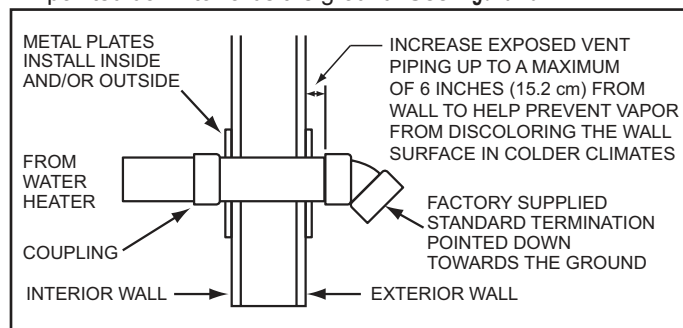

Figure 23. Sidewall Termination Installation
8. Cut a length(s) of pipe being installed 3.5 inches (8.9 cm) to 9.5 inches (24.1 cm) longer than the wall thickness at the opening. See **Figure 23**.
11. Working from outside, slide the pipe and termination(s) assembled in the above steps through the wall. Ensure the termination(s) is pointed down towards the ground. See **Figure 23**.
15. Install a coupling to the end of the pipe(s) inside the building. Before the silicone caulking has time to completely set go outside the building and ensure the termination(s) is still pointing down towards the ground. See **Figure 23**.